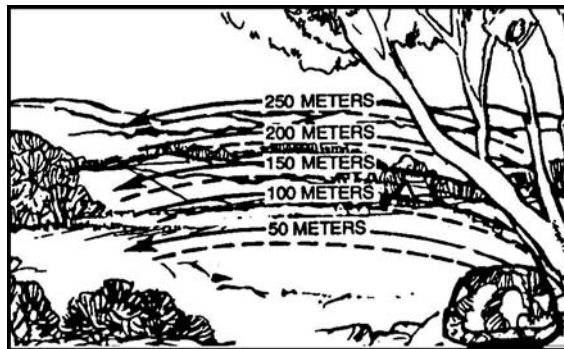

Figure 2. Overlapping strip search.
- b. Observe by overlapping, 50-meter-deep strips of terrain in detail, alternately searching left to right, right to left (Figure 2).